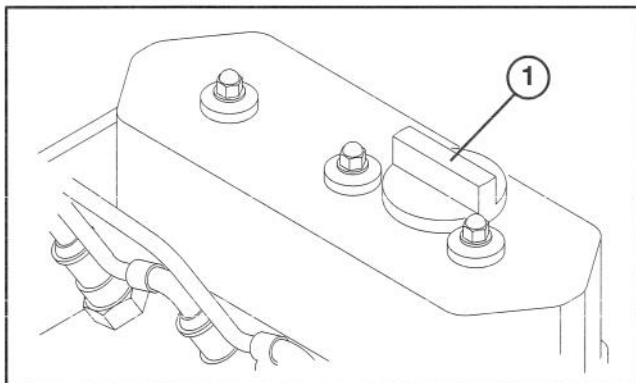

Figure 11
3. If oil level is low, remove oil fill cap (Fig. 11) and gradually add small quantities of oil, checking level frequently, until level reaches FULL mark on dipstick.